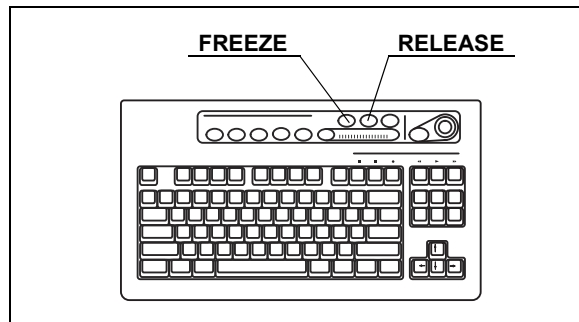

Figure 5.57
2. Press the "FREEZE" key to pause the endoscopic image (see Figure 5.57).
4. Press the "RELEASE" key (see Figure 5.57) to record the image. It may take around several seconds to record the images.